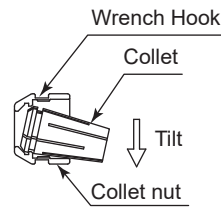
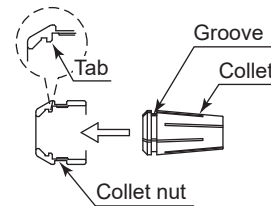
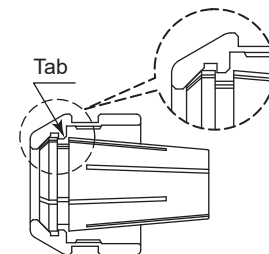

Fig. 9
Fig. 10
Fig. 11
- (2) The collet and collet nut are secured by a groove in the collet and a flange in the collet nut. If the collet is not released, try tilting it to the other side of the wrench seat. (Fig. 9).
- (3) To install the collet, hold the collet at a slight angle, and insert it into the collet nut (Fig. 10). Press the collet in the collet nut by positioning the collet in the collet nut and pressing down on flat surface (Fig. 9). Be sure to fully engage the latch inside the collet nut into the groove on the collet's outer circumference area (Fig. 11).